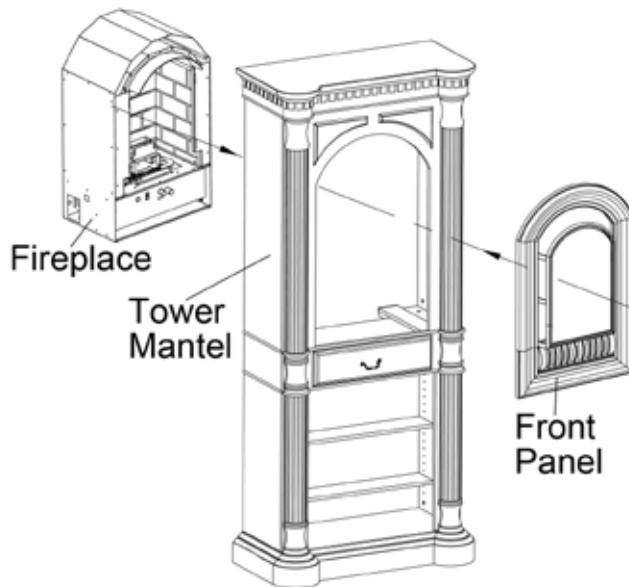

Figure 8
5. Position fireplace inside mantel (see Figure 8). Carefully position gas lines. Important: Use caution when positioning fireplace on base. Base may scratch easily. Make sure fireplace is in proper position within mantel opening.